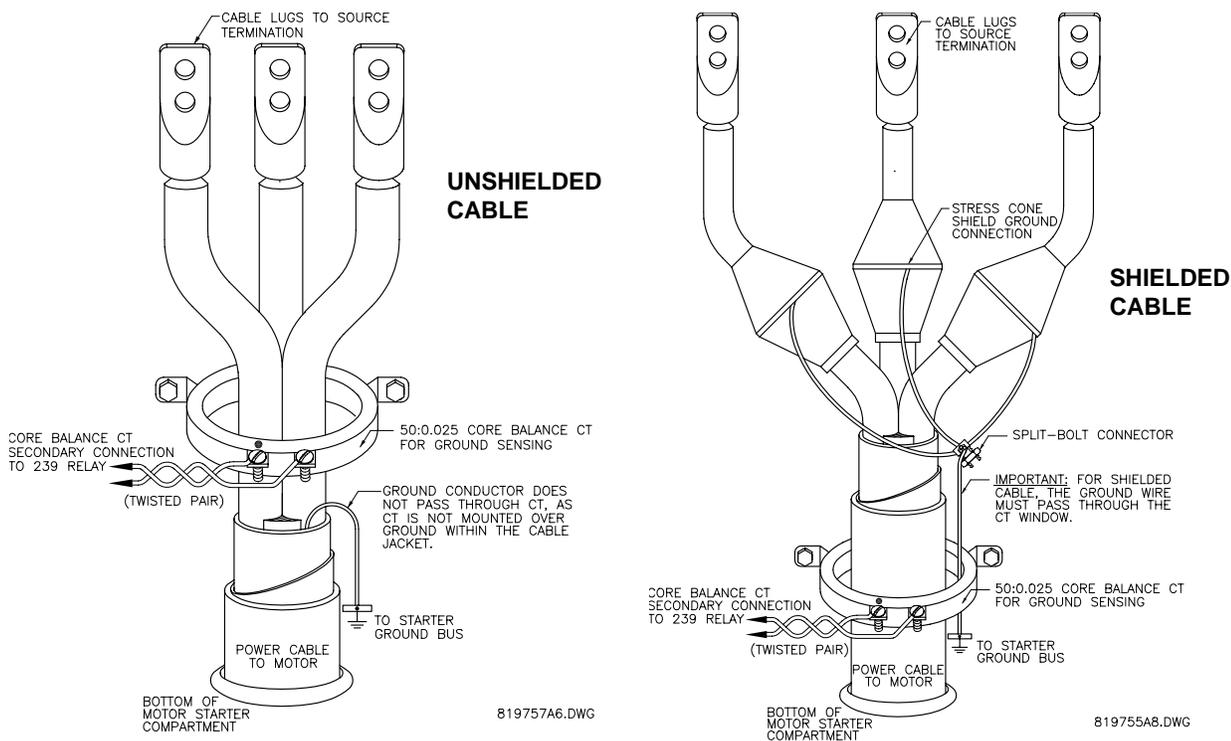

Figure 2–4: CORE BALANCE GROUND CT INSTALLATION
Ground sensing terminals are labeled 5A, 50:0.025, and COM. Connection will depend on the type of grounding system and sensitivity required. For high resistance grounded systems that limit the ground current or in mines where low levels of ground leakage must be detected, use a separate CT to sense ground current. In this configuration, referred to as zero sequence or core balance detection, all three phase conductors must pass through the CT window. If the phase conductors are bundled in a cable with a ground, the ground wire must either pass outside the ground CT window or be routed back through the window if it passes through as part of the cable. Shielded and unshielded cable installations are illustrated in Figure 2–3: TYPICAL WIRING DIAGRAM on page 2–4. A ground CT with a ratio of 50:0.025 for sensing primary ground currents from 0.05 to 15 A is available from GE Power Management. Connect this CT to terminals 50:0.025 and COM. If a conventional 5 A secondary CT is used for zero sequence ground sensing, connect it to the 5A and COM terminals. A 1 A secondary CT can also be used; however, to prevent all the readings from being off by a factor of 5, the ground CT primary setpoint must be adjusted. See Section 4.3a) CT INPUTS on page 4–9 under **GROUND CT PRIMARY** for suitable settings in this situation. Due to the low secondary currents, it is recommended that the ground CT secondary leads be twisted together and routed to the 239 away from high current carrying conductors. **NOTE: The 50:0.025 input is only recommended to be used on resistance grounded systems. Where the system is solidly grounded or high levels of current are to be detected use the 5A ground input.**
There are 4 output relays each with form C contacts (normally open (NO), normally closed (NC), and common (COM)). Contact ratings for each relay are identical and are listed in Section 1.4: SPECIFICATIONS on page 1–7. Figure 2–3: TYPICAL WIRING DIAGRAM on page 2–4 shows the state of the relay contacts with no control power applied; that is, the relays are not energized. Relay contact wiring will depend on how the relay operation is programmed in S3: OUTPUT RELAYS (see Section 4.4: S3: OUTPUT RELAYS on page 4–12).